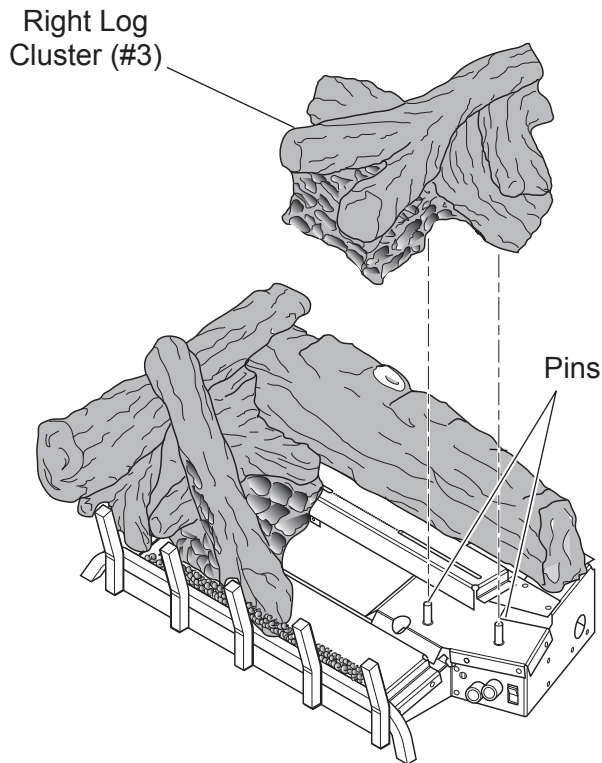

Figure 28 - Installing Right Log Cluster (#3)
3. Install right log cluster (#3) on two pins located on right side of base. *See Figure 28.*